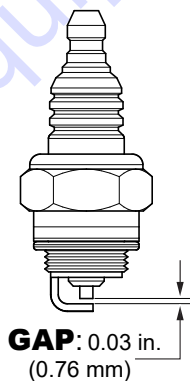

Figure 51. Spark Plug
1. Remove the spark plug (Figure 51) and clean it with a wire brush if it is to be reused. Replace the spark plug if the insulator is cracked or chipped.
2. Using a feeler gauge, adjust the spark plug gap (Figure 51). The gap should measure 0.03 inch (0.76 mm).